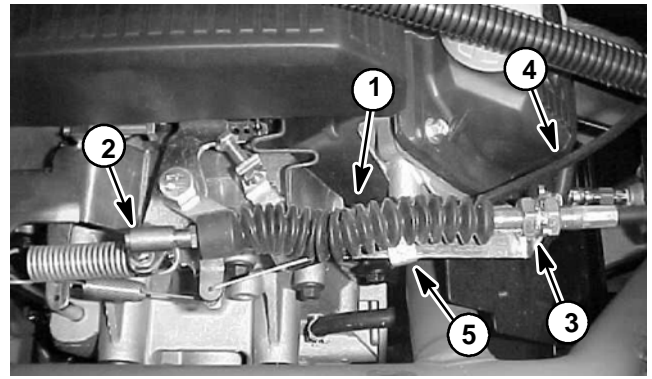

Figure 9
4. Remove accelerator cable from engine (Figs. 9 and 10).
5. Remove choke cable from the engine speed control bracket (Figs. 9 and 10).
6. Install choke cable to engine and secure with cable clamp (Figs. 9 and 10). Check choke cable adjustment (see Adjust Choke Cable in the Adjustments Section of this chapter).
7. Reconnect accelerator cable to engine (Figs. 9 and 10).